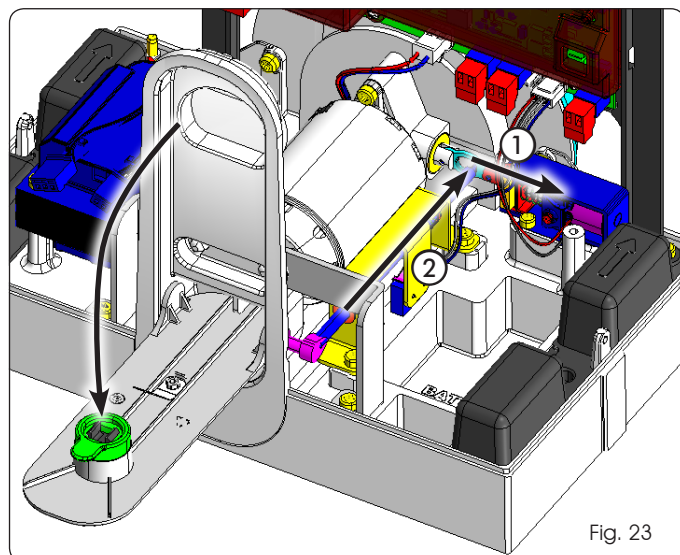

Fig. 23
**Lowering the release lever, both the motor lock, which is retracted (Fig. 23 re. ①), and the safety microswitch forcing the automation to STOP (Fig. 23 re. ②) are operated.**